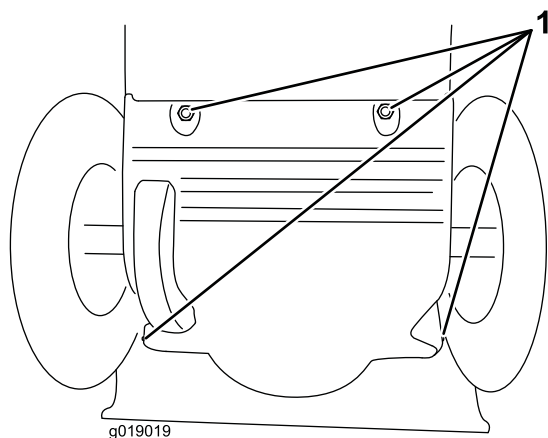

Figure 43
1. Remove the back cover (Figure 43).